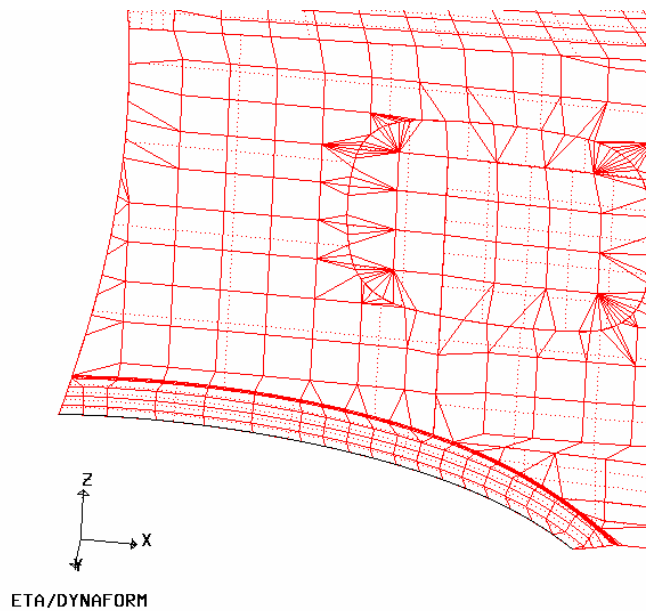

Figure 6.1.34 Select Morphing Boundary
1. Click the **MORPHING BOUNDARY** button, and the boundary of the Die will be highlighted. The program will prompt the user to select two points on the part boundary to define the morphing region. Figure 6.1.34 shows the selected region on the part boundary.